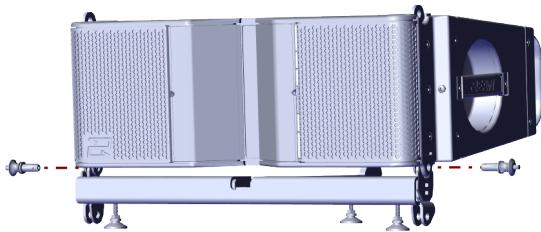
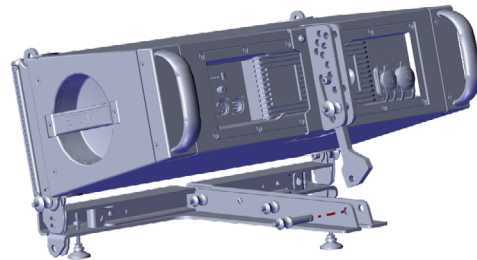

Figure 11a
Figure 11b
2. Once flybar frame is level on surface, add first NT206L module by placing module on frame and pinning both front locations with pins on the flybar (Figure 11a). Swing rear rigging on cabinet down and secure to flybar using pin on the frame (Figure 11b). Using pin on NT206L cabinet, secure by pinning angle lock.